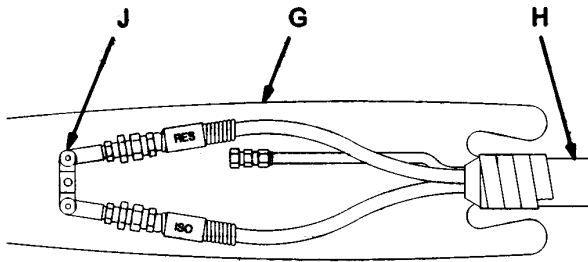

Figure 14
- Lay the abrasion cover (G) and assembled heated hose (H) end to end. Refer to Figure 14.
- With the gun disconnected from the gun manifold (J) and the air hose disconnected from the gun, pull a couple of inches of the cover (G) over the manifold and hoses and tape the cover to the hoses.
- Push the cover (G) onto the hoses. See Figure 14. The cover will double over itself and be turned inside out as it slides over the hoses.
- Secure the other end of the cover (G) with tape.